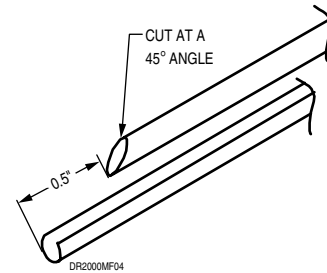

Figure 2. Cutting Chemical Feed Tubing, inserting into Standpipe
- b. The second piece should be cut to roughly 1 foot to fit into the Heatsavr jug as a pick up line. A standpipe is provided to ensure the tube does not curl in the jug. Cut the bottom of the Heatsavr suction line tubing at a 45-degree angle and press it into the standpipe (see Figure 2). This guarantees an unobstructed Heatsavr uptake.